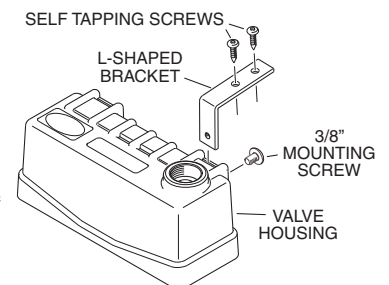

Figure 6
- Slide both L-shaped brackets into the valve housing as shown (see Figure 6).
- Attach each L-shaped bracket to the tank rim with two (2) self tapping screws.